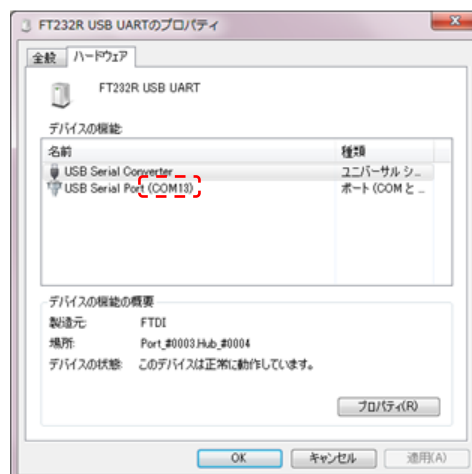

Figure 6 - COM Port No.
8. Click the "Hardware" tab on the "Properties" screen and check the displayed COM port number (Figure 6). Write down this number as this is necessary for initial setup of the data management software. (See Sec. (5-1) (5)).